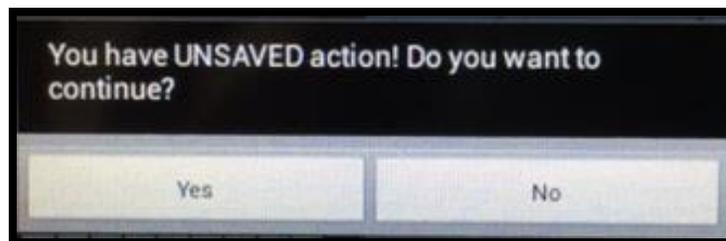

Figure 36
- g) The **LOAD** button when pressed a sub window will open permitting the operator to load a previously saved analysis. In the event the button is pressed prior to saving the current data a window will appear stating “You have UNSAVED action! Do you want to continue?” (Yes) (No). (See Figure 36)